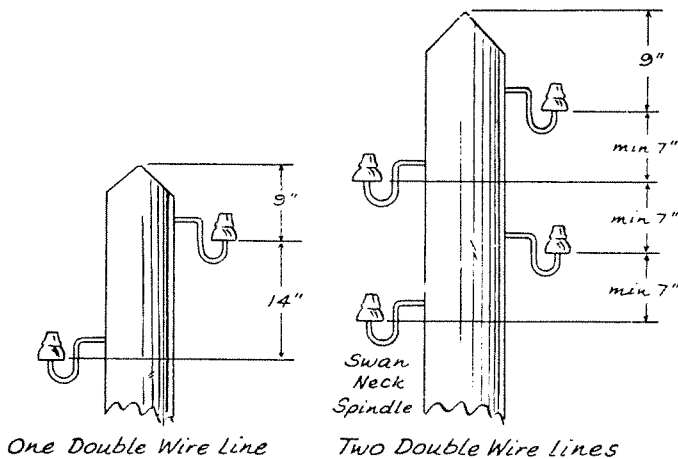

Fig. 15.
57. The line is attached to skirted insulators which are held by swan-neck spindles, one on each side of the pole. (See Fig. 15.)